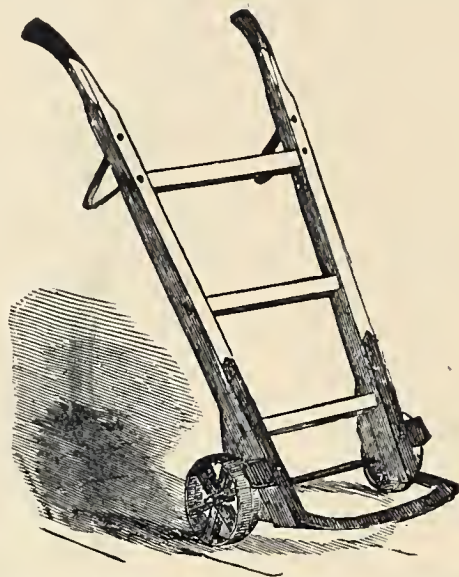

Fig. 504. — New-York Pattern Store-Truck.
*The New-York Pattern Store-Truck* is represented by *Fig. 504*. This is a light truck, of which we make six sizes, usually ironed as illustrated, but sometimes the iron-work is extended up the handles to upper crossbar.